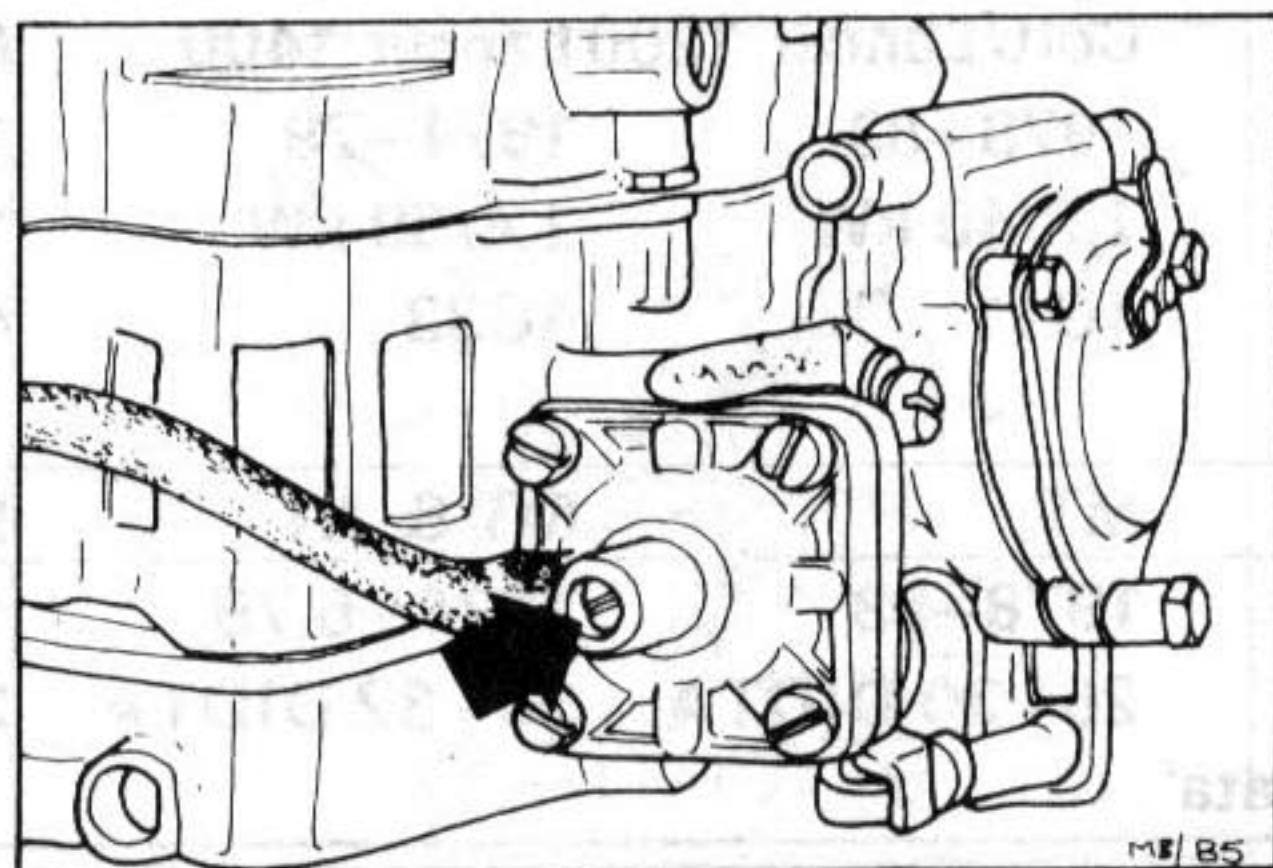

Fig. 6 Choke gap adjustment screw
- Check gap between lower edge of choke plate and air intake wall, with suitable size of gauge or drill (B). Ensure drill/gauge is a tight fit to eliminate play in choke linkage.
- If clearance is outside specified limits, adjust by turning adjusting screw at pull-down diaphragm housing (Fig. 6). Screwing in reduces gap, and vice-versa.